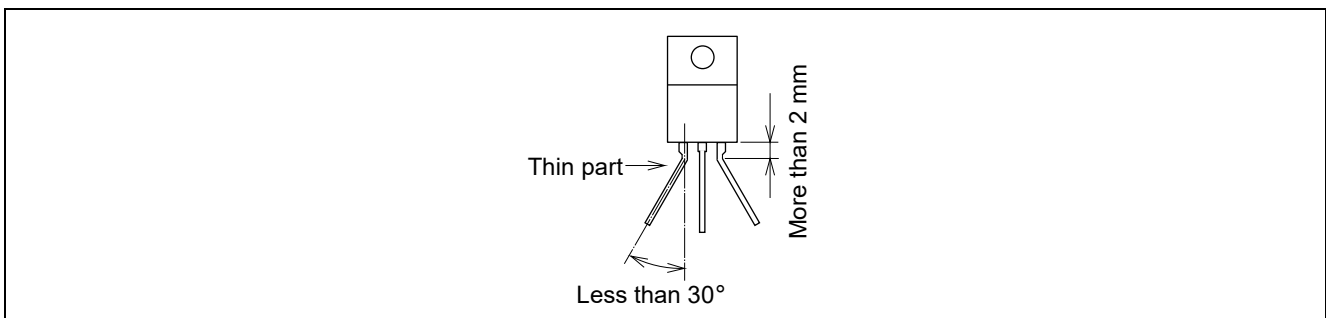

Figure 15 Bending leads in lateral direction
- When bending the lead in the lateral direction, bend it at a thin part of the lead or at a point at least 2 mm away from the main body and its angle should be less than 30 degrees as shown in the Figure 15.